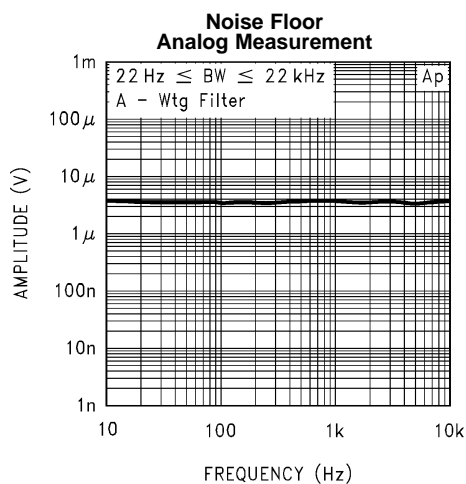
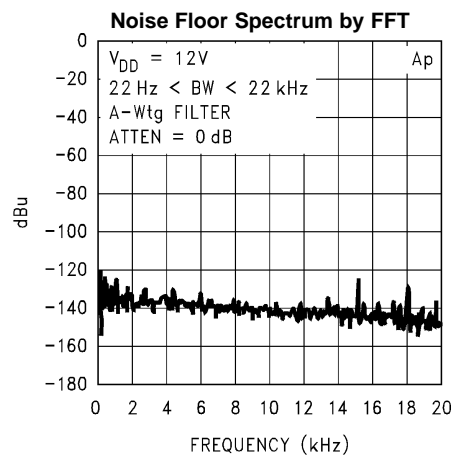

Figure 5.
Figure 8.
- (1) *Absolute Maximum Ratings* indicate limits beyond which damage to the device may occur. Operating Ratings indicate conditions for which the device is functional, but do not specify specific performance limits. *Electrical Characteristics* state DC and AC electrical specifications under particular test conditions which ensure specific performance limits. This assumes that the device is within the Operating Ratings. Specifications are not ensured for parameters where no limit is given, however, the typical value is a good indication of device performance.
- (2) All voltages are measured with respect to the GND pin (pin 3), unless otherwise specified.
- (3) Typicals are measured at  $25^\circ C$  and represent the parametric norm.
- (4) Limits are specifications that all parts are tested in production to meet the stated values.
- (5) Due to production test limitations, there is no limit for the Noise test. Please refer to Figure 5 and Figure 8 in Typical Performance Characteristics.